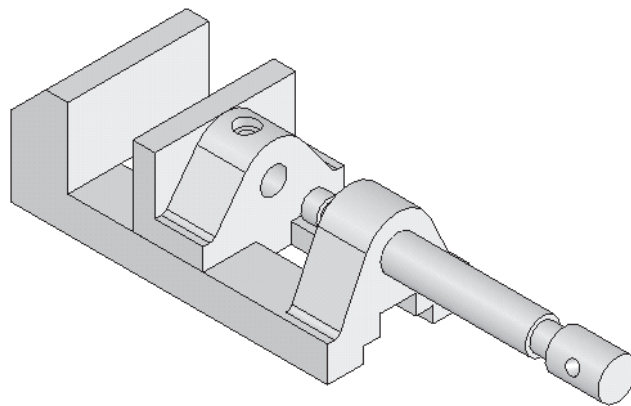

Figure 12-63 The Concentric mate applied between the Jaw Screw and the Vice Body
7. Release the left mouse button at this location; the **Mate** pop-up toolbar is displayed and the **Concentric** button is chosen by default, which suggests that the **Concentric** mate is the most appropriate mate to be applied. Choose the **Add/Finish Mate** button from the **Mate** pop-up toolbar. Figure 12-63 shows the Jaw Screw assembled in the Vice Body.